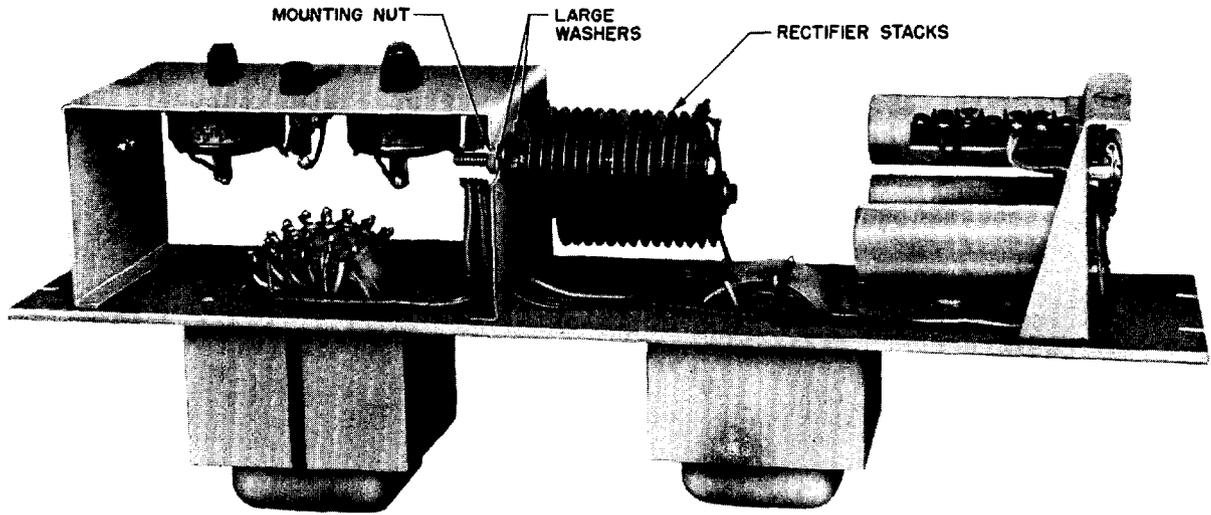

Fig. 2 - J86256A, L1 Rectifier
3.06 Defective rectifier stacks in **J86256A rectifiers** (see Fig. 2) shall be replaced with KS-15557, L1 or L2. If L1 rectifier stacks are not available, L2 may be substituted. However, rectifier stacks in any rectifier shall be from the same supplier and have the same list number. Re-use the large washers to mount the new rectifier stacks as shown in Fig. 2. When mounting rectifier stacks in the J86256A rectifier, position them so that there is at least 1/8 inch clearance between the two stacks and between the stacks and the adjacent components. All stacks that have been in service two or more years shall be replaced.